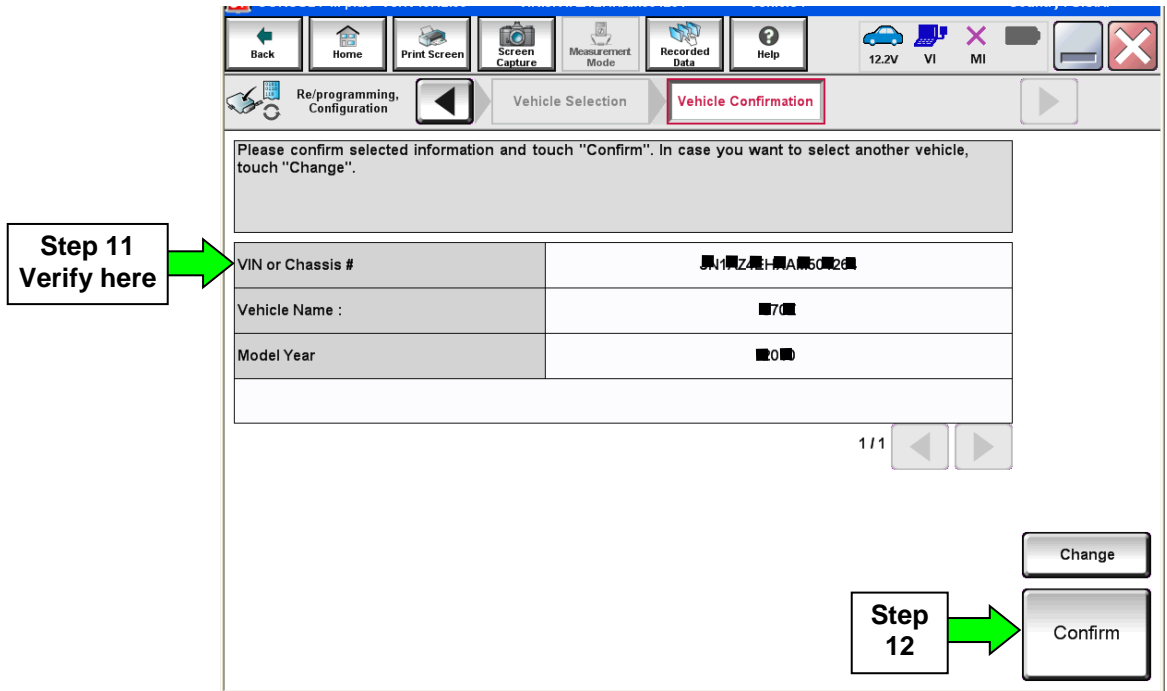

Figure 4
- If the screen in Figure 4 does not display, skip to step 11.